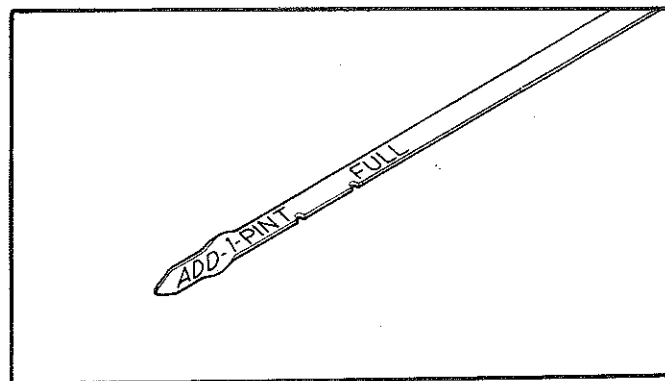

Fig. 2—Automatic transmission dipstick markings
- Withdraw the dipstick and wipe with a clean rag. Install the dipstick into the filler tube, withdraw and check level. The level must be within the marks on the dipstick (Refer Fig. 2).